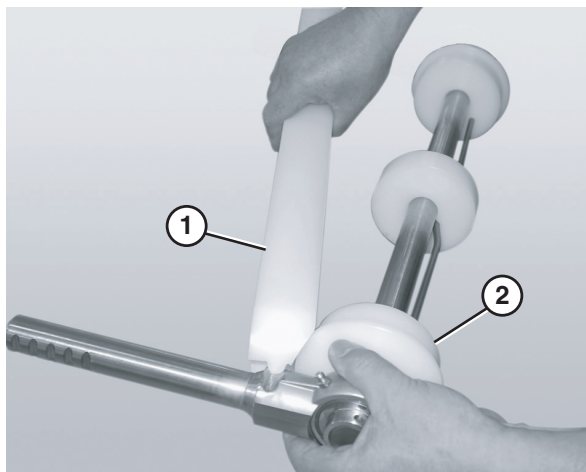

Figure 69
6. Remove the guard bar (**Figure 69, item 1**).
7. Remove the pucks (**Figure 69, item 2**).